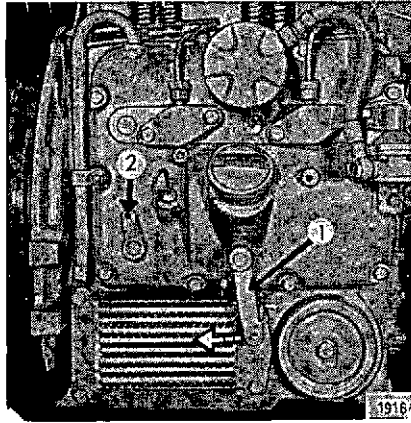

Fig. 6
2. Set speed control lever 1 (Fig. 6) to about quarter speed by hand or foot in the arrowed direction.
2. Move speed control lever 1 (Fig. 6) to about 1/4 speed position by hand or foot in arrowed direction.
1. Set speed control lever 1 (Fig. 6) to low idling.